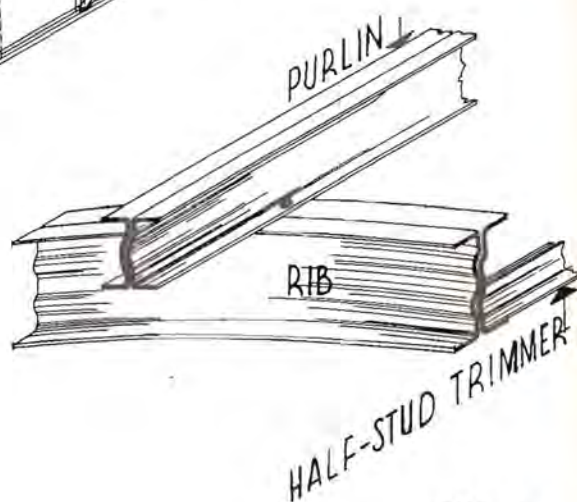

FIG. 4
4. Place channel plates (Mk. P-1 and P-2) over ends of joists and parallel to outside sill joists. Screw these to the joists. Use 2 screws diagonally at each joist but use 4 screws where there is a joint in the channel plate. (See figure 3.) Finally screw the four rib shoes Mk. R S—1 to the extreme ends of the outside joist sills. (See photo above and figure 4.)